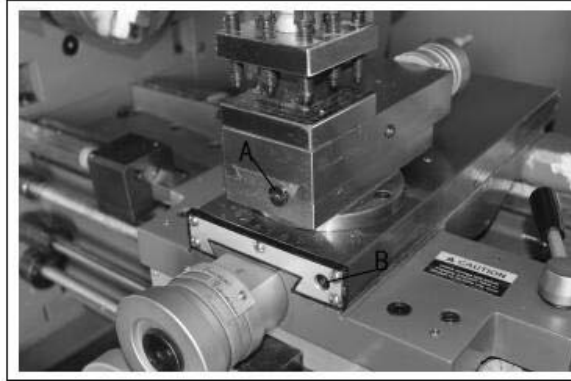

Figure 23
2. Tighten the front gib screw (B, Fig. 23) a quarter turn. Turn the cross slide handwheel to see if the cross slide is still loose. If it is still loose, tighten the front screw a bit more and try again.
Follow the same procedure as the cross slide adjustment to adjust the compound rest. Rear gib screw is shown (A, Fig. 23). Front gib screw (not shown) is by the handwheel.